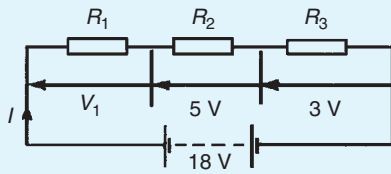

Figure 5.9
- For the circuit shown in Fig. 5.9, determine the value of  $V_1$ . If the total circuit resistance is 36 Ω determine the supply current and the value of resistors  $R_1$ ,  $R_2$  and  $R_3$